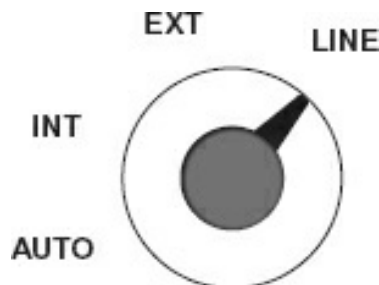

Figure 3-12. Sync selection.
- **Sync selection** – A typical sync selection switch is shown in Figure 3-12. This switch determines the type of synchronization to be used: